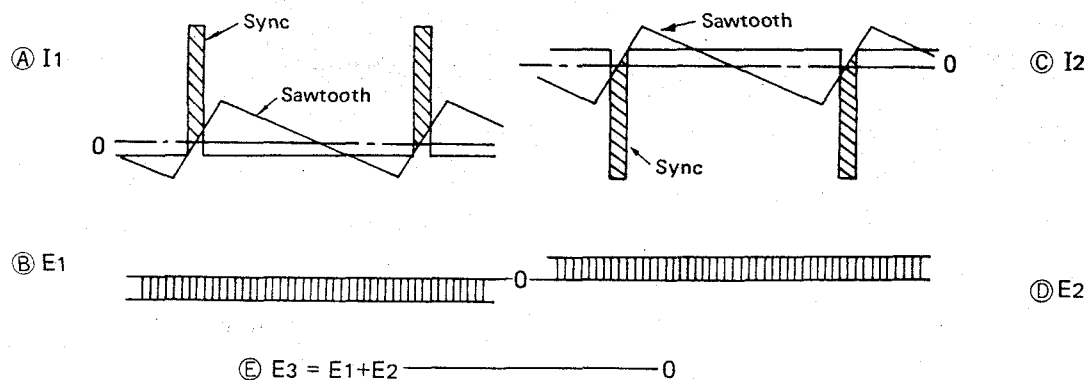

Fig. 98 Phase Comparison-1
If the phases (frequencies) of the sync pulse and sawtooth signal agree, D802 is energized only in the shaded part in Fig. 98 (A), and C811 is charged with current i_1 to generate a changing voltage E1 (B). D803 is energized only in the shaded part (C), and C811 is charged with current i_2 to generate a charging voltage E2 (D). i_1 and i_2 have the same current value, and i_1 flows in C811 opposite to i_2 that flows in C811 so that the charging voltages E1, E2 have the same value but opposite in polarity to each other. The detector output voltage E3 (E) taken out of the crosspoint of R807 and R808 falls to zero so that VCO oscillation frequency remains unchanged.